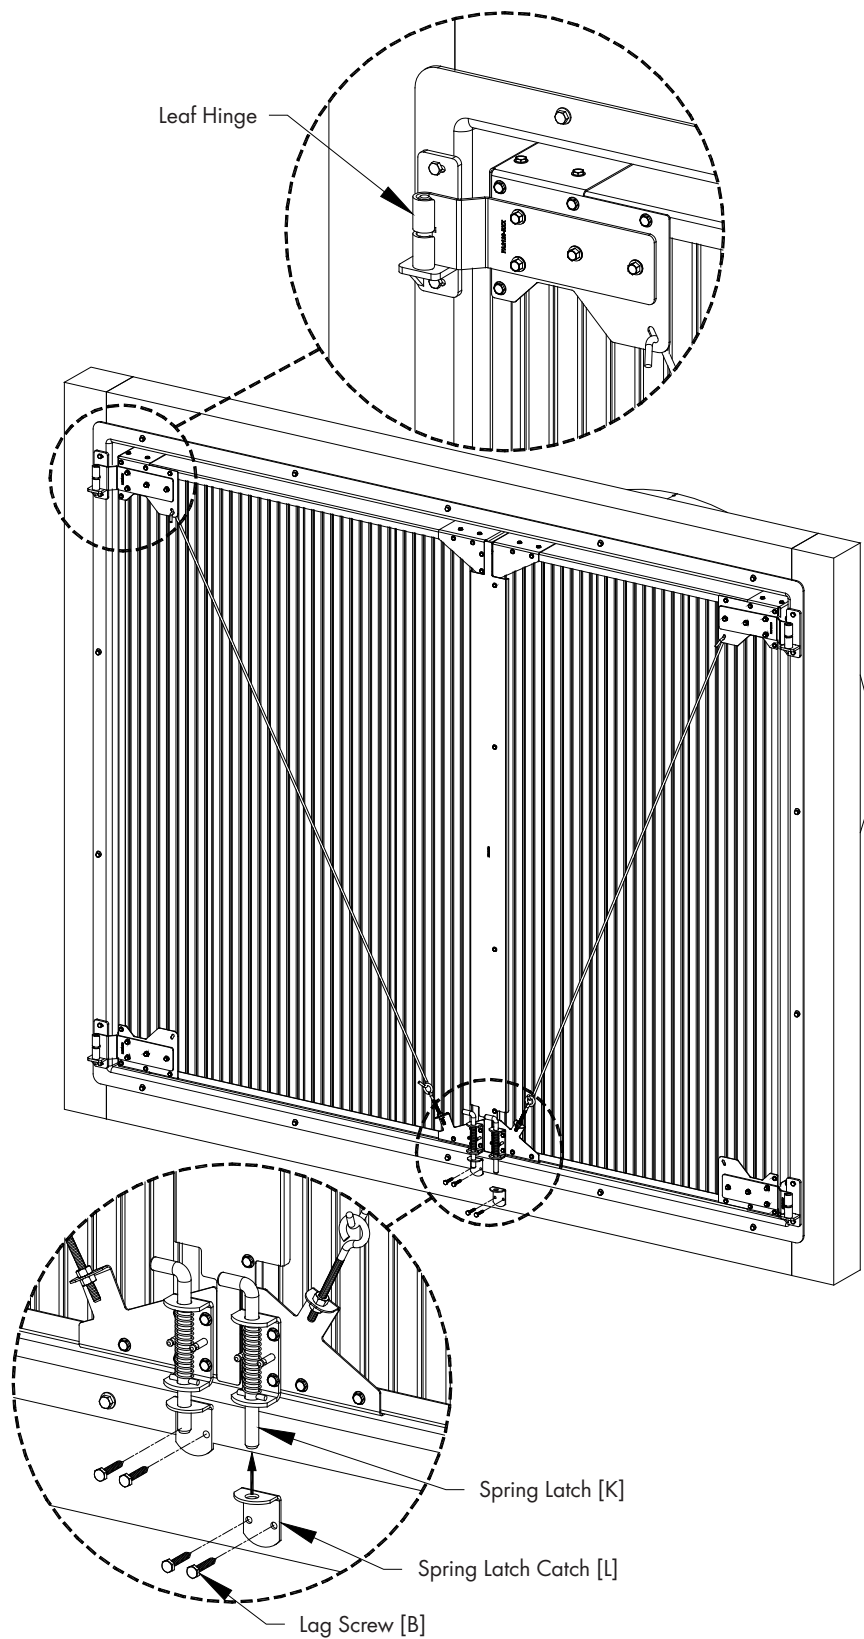

Figure 26
With both doors in the close position, slide (1) Spring Latch Catch [L] over each Spring Latch [K] $\frac{3}{4}$ " and fasten to LTX Housing Flange using (2) Lag Screws [B]. See Figure 26. If needed to allow the door to swing open and close easier, grease may be applied to the hinge pin.